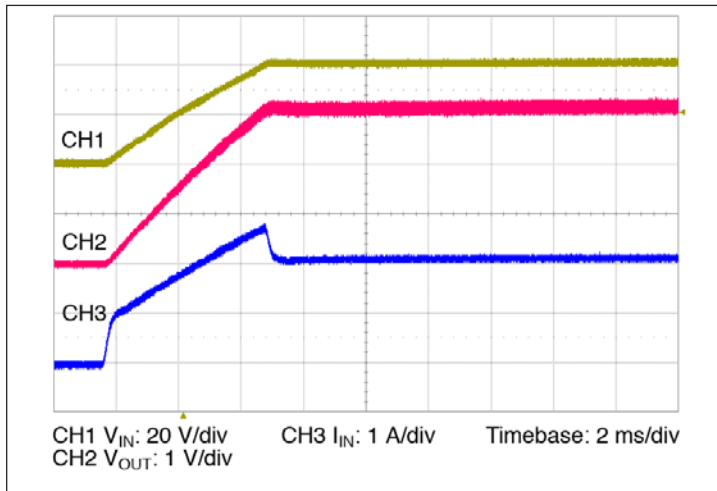

Figure 13 – Start up from application of V_{IN} ; VC pre-applied $C_{OUT} = 0 \mu$ F
- Normal Operation (VC applied prior to V_{IN}): In this case the controller is active prior to ramping the input. When the input voltage is applied, the VTM output voltage will track the input (See Figure 13). The inrush current is determined by the input voltage rate of rise and output capacitance. If the VC voltage is removed prior to the input reaching 26 V, the VTM may shut down.